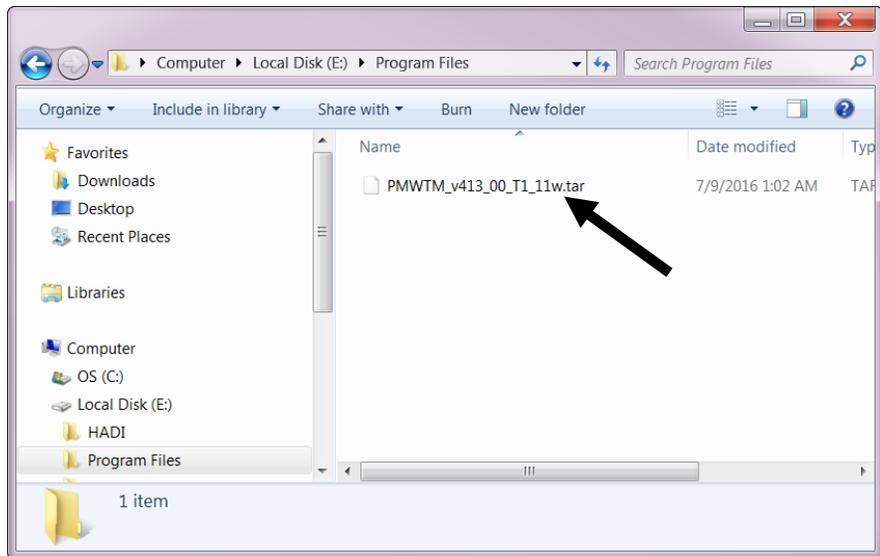

Figure 2-4. Select User Program File
6. Click **Browse** in the Download User Program File frame. The Select User Program File screen displays (see *Figure 2-4*).